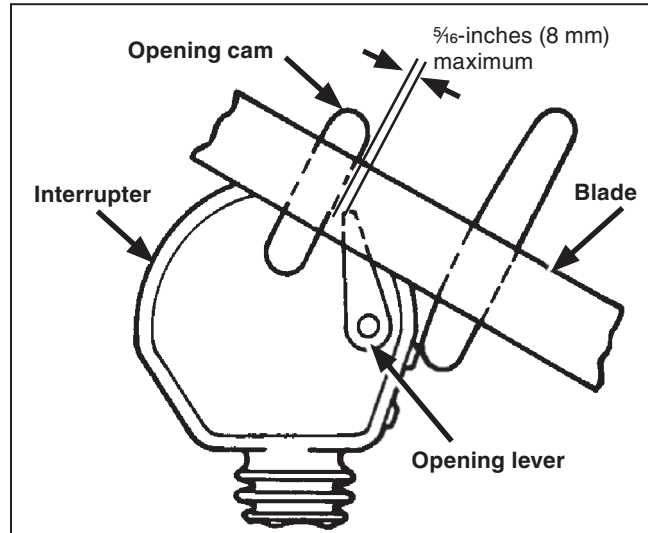

Figure 29. The blade assembly moving in the closing direction.
- (a) As the blade moves in the closing direction, clearance between the blade-opening cam and the interrupter-opening lever must be within the limit shown. See Figure 29.